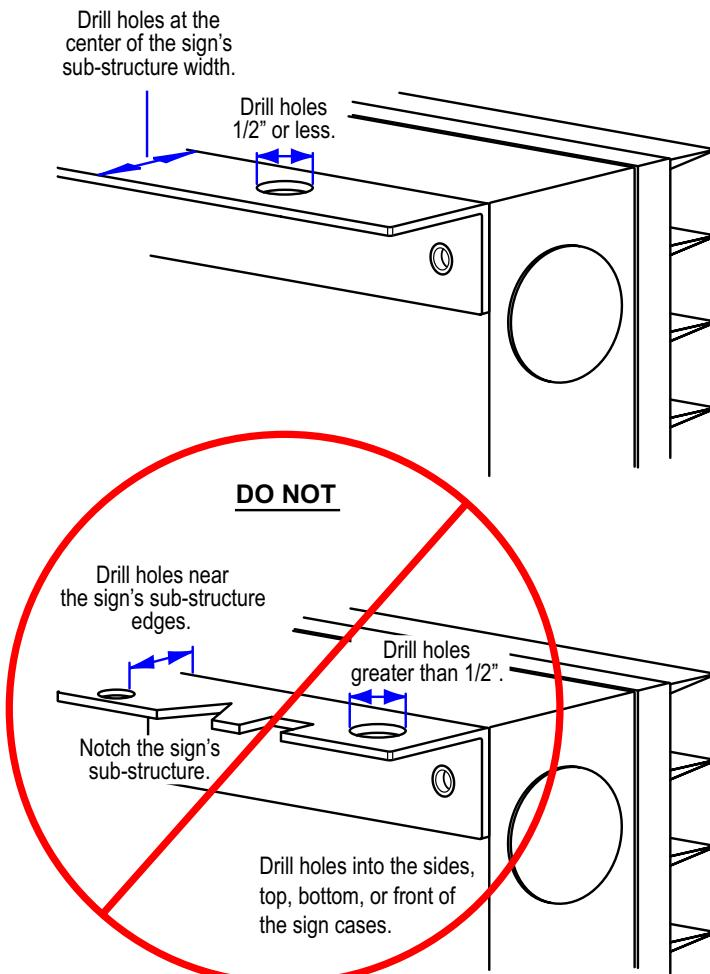

Figure 24. Drilling guidelines
- **DO NOT** modify the sign or sign's sub-structure for ventilation purposes (see Figure 24 on page 27). The super-structure design **MUST** incorporate adequate ventilation.